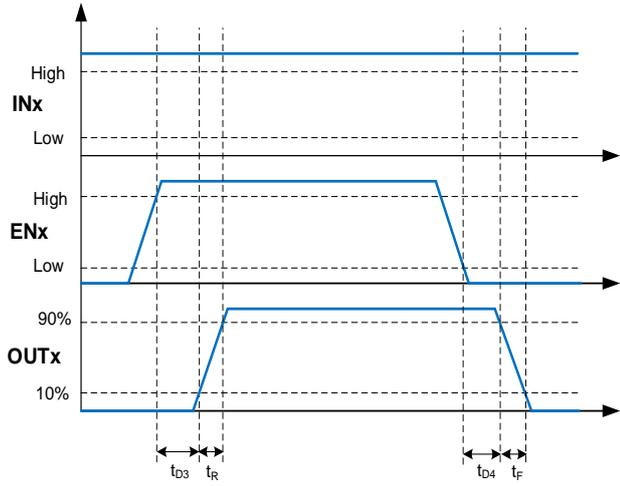
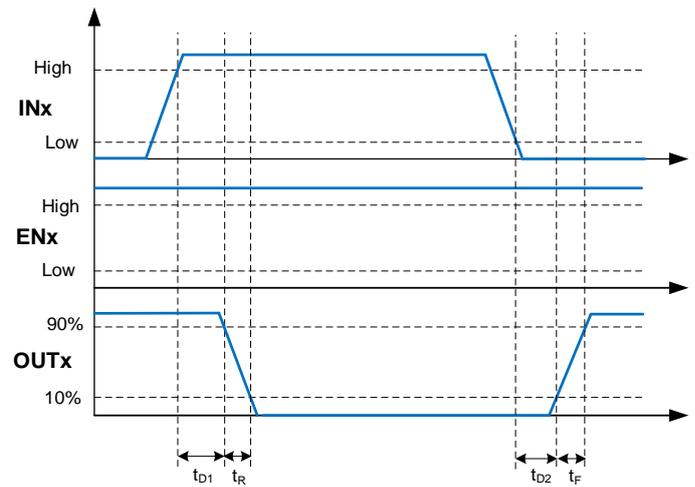

Figure 5. Enable Function for Non-Inverting Input Driver
Figure 8. Inverting Input Driver Operation
1) See timing diagrams in Figure 5 to Figure 8.